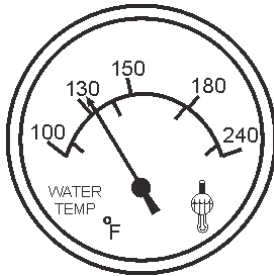

Figure 57. Coolant Temperature Gauge
15. The coolant temperature gauge (Figure 57) will indicate the coolant temperature. Under normal operating conditions the coolant temperature is between 165 and 215 degrees Fahrenheit.